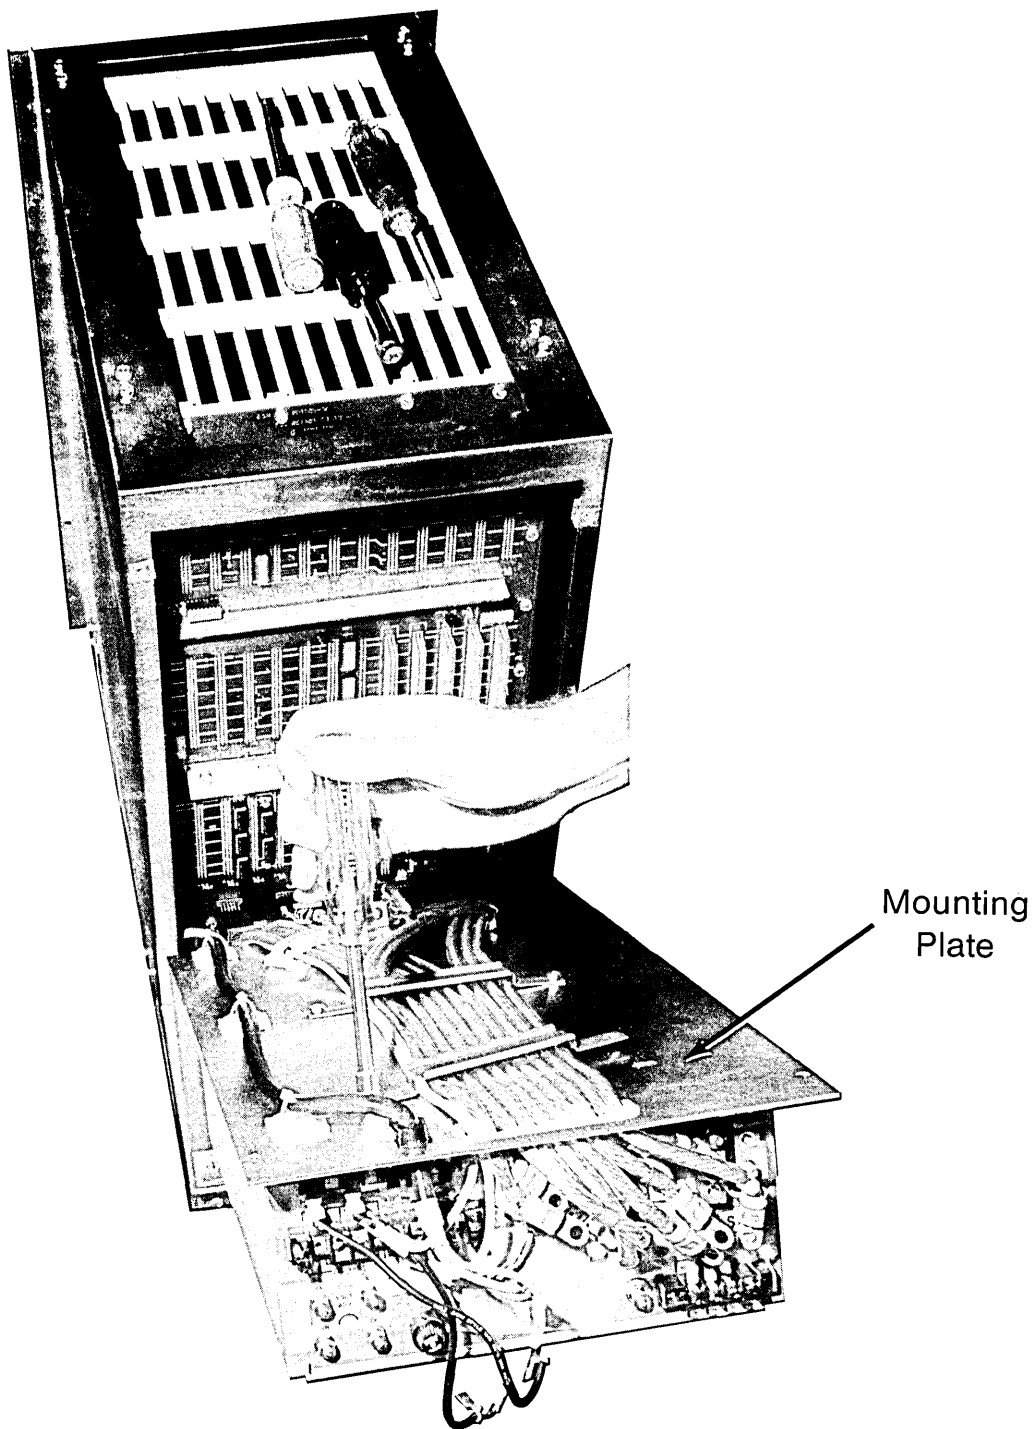

Figure 5-41. Removing Screws to Separate Power Supply
9. See figure 5-41. Remove any three of the four screws; these screws serve a double purpose, a) to fasten the brackets which restrain the heavy conductors and b) to hold the entire power supply against the L-shaped mounting plate on which the supply rests. The remaining screw holds the power supply against the plate during the next step.